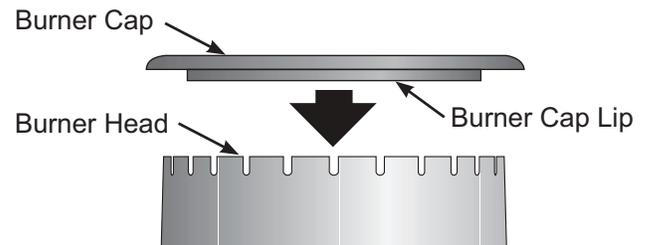

Figure 25: Burner Cap
1. Remove the burner cap from the burner head (see Figure 25). Clean the cap with hot soapy water and dry thoroughly.